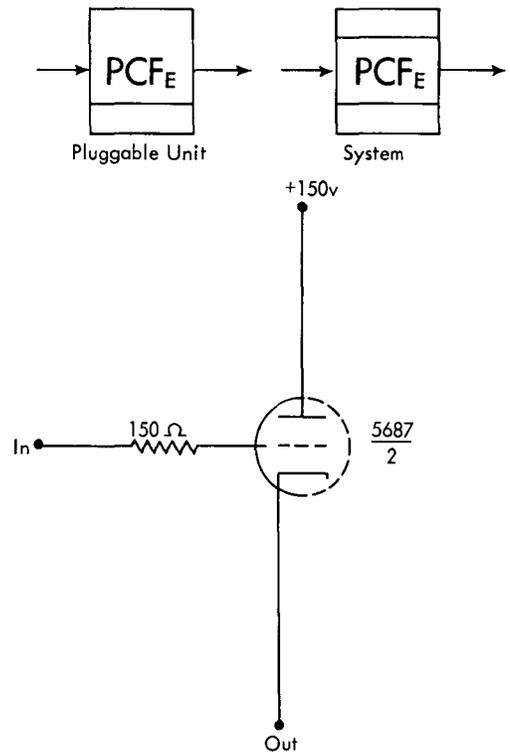

FIGURE B67. POWER CATHODE FOLLOWER (PCFE)
The power cathode follower PCFE (Figure B67) is a delay line driver and can be found driving the delay line on the input to the clock. The load resistor of the 2PCFE is equal to the characteristic impedance of the delay line and it terminates the input of the line.
The PCFF schematic is identical to the PCFE (Figure B67) with the possible exception that the plate voltage may be +220 volts. This is indicated by an X in the upper right corner of the pluggable unit block. A decoupling circuit is used consisting of: (1) a 47-ohm resistor between the plate and +220 volts, and (2) a .05 ufd capacitor from the plate to ground.